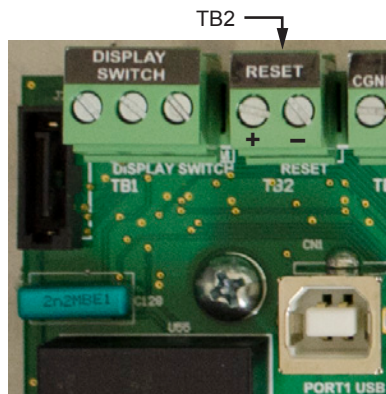

Figure E.12—Location of TB2 (reset switch) showing wiring labels
10. Connect the reset switch wires to TB2 on the circuit board (Figure E.12) as follows: